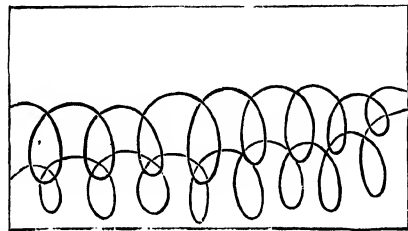

Fig. 366.—Path of Rubber in French Polishing.
**Method.**—The object is to get a good and even body of polish on the wood. A wood surface to be french polished must first be made smooth with plane, scraper and glasspaper, and the pores of the wood must then be filled with whiting mixed with turpentine, well rubbed in and then wiped off clean. Dozens of other fillers, including polish and varnish, are available, but the above answers very well. To start the actual polishing, quickly wipe over the entire surface, using moderate pressure on the rubber, first with the grain of the wood, then across it. Then immediately go over it more carefully, following roughly the motion indicated by Fig. 366. Use gentle pressure at first, increasing it as the polish gets worked in and the rubber becomes drier. But always rub, not scrub. Keep the rubber while in contact with the wood constantly in motion. It must not rest on the work during temporary absence or at the end of the day's work. As the rubber gets dry it must be recharged with polish in the way already described, but be careful not to use this in excess. Aim at getting the polish evenly distributed over all portions, and, if needful, coat the extreme
Avoid working in straight lines; something resembling a circular movement is indicated in Fig. 366, but perhaps even better results are obtained by letting the motion resemble figure 8's, letters S, and small a's. To obviate dull corners and edges, keep well up in the corners and on the outside edges; the middle will take care of itself. Bodying means coating the wood with a thin, evenly distributed layer of the polish, as already described. If the body is too thin, the gloss that is put on will fade as the polish sinks or perishes. A thick body impairs the pure tone of some woods, and the work is apt to look treacly, as though varnish had been used. In order that the rubber may work smoothly without sticking, a very little raw linseed oil should be used. The tip of a finger, moistened with oil, and touched on the face of the rubber, is all that is required. Raw linseed oil may be worked first over the natural woods to give them that peculiar tone that cannot be gained by other means; otherwise the less oil used the better for the durability of the work. Oil in polishing is used only to enable the gums to be worked easily; without it the polish rubber is apt to stick or drag, thus breaking up, instead of leveling, the surface. A small quantity of polish goes a long way; carefully avoid making the rubber wet with polish. Too much polish causes the shellac left by the quick evaporation of the spirit to be ridgy and irregular, instead of in a fine, even coating or body. Anything approaching a flow of polish from the rubber must be avoided. On the other hand, when the rubber is not sufficiently charged with polish, the labour of bodying up will be unduly prolonged. The first bodying-in process should be continued till it seems that the wood cannot absorb more polish. There will be a perceptible gloss on its surface, but it will be streaky, and the rubber marks will show very distinctly. The work should stand for at least a day, carefully covered up from dust; then the body will be found to have altered in appearance to an extent which will depend upon how much the polish has sunk into the wood. The work must be again bodied up as before, using as little oil as possible. Again stand